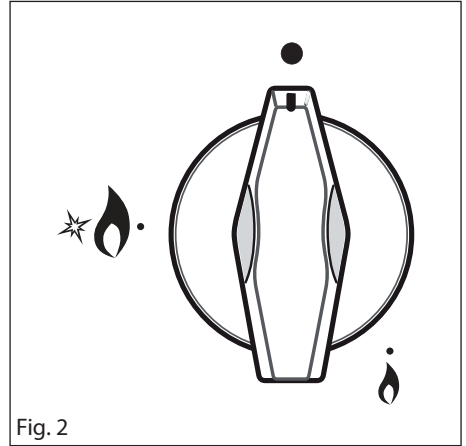
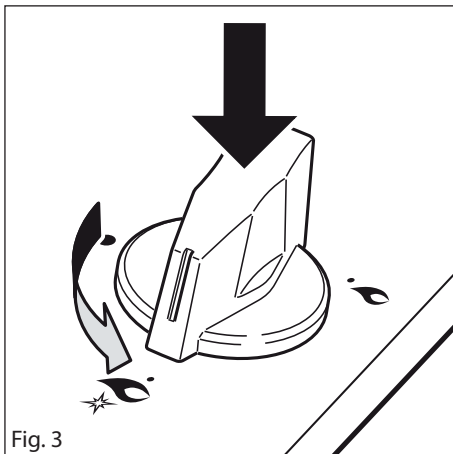

Fig. 2
Fig. 3
Gas flow to the burners is adjusted by turning the knobs (illustrated in fig. 2) which control the safety valves.
1. Press in the corresponding knob and turn counter-clockwise (fig. 3) to the full flame position marked by the "★" symbol (fig. 2); hold the knob in until the flame has been lit.